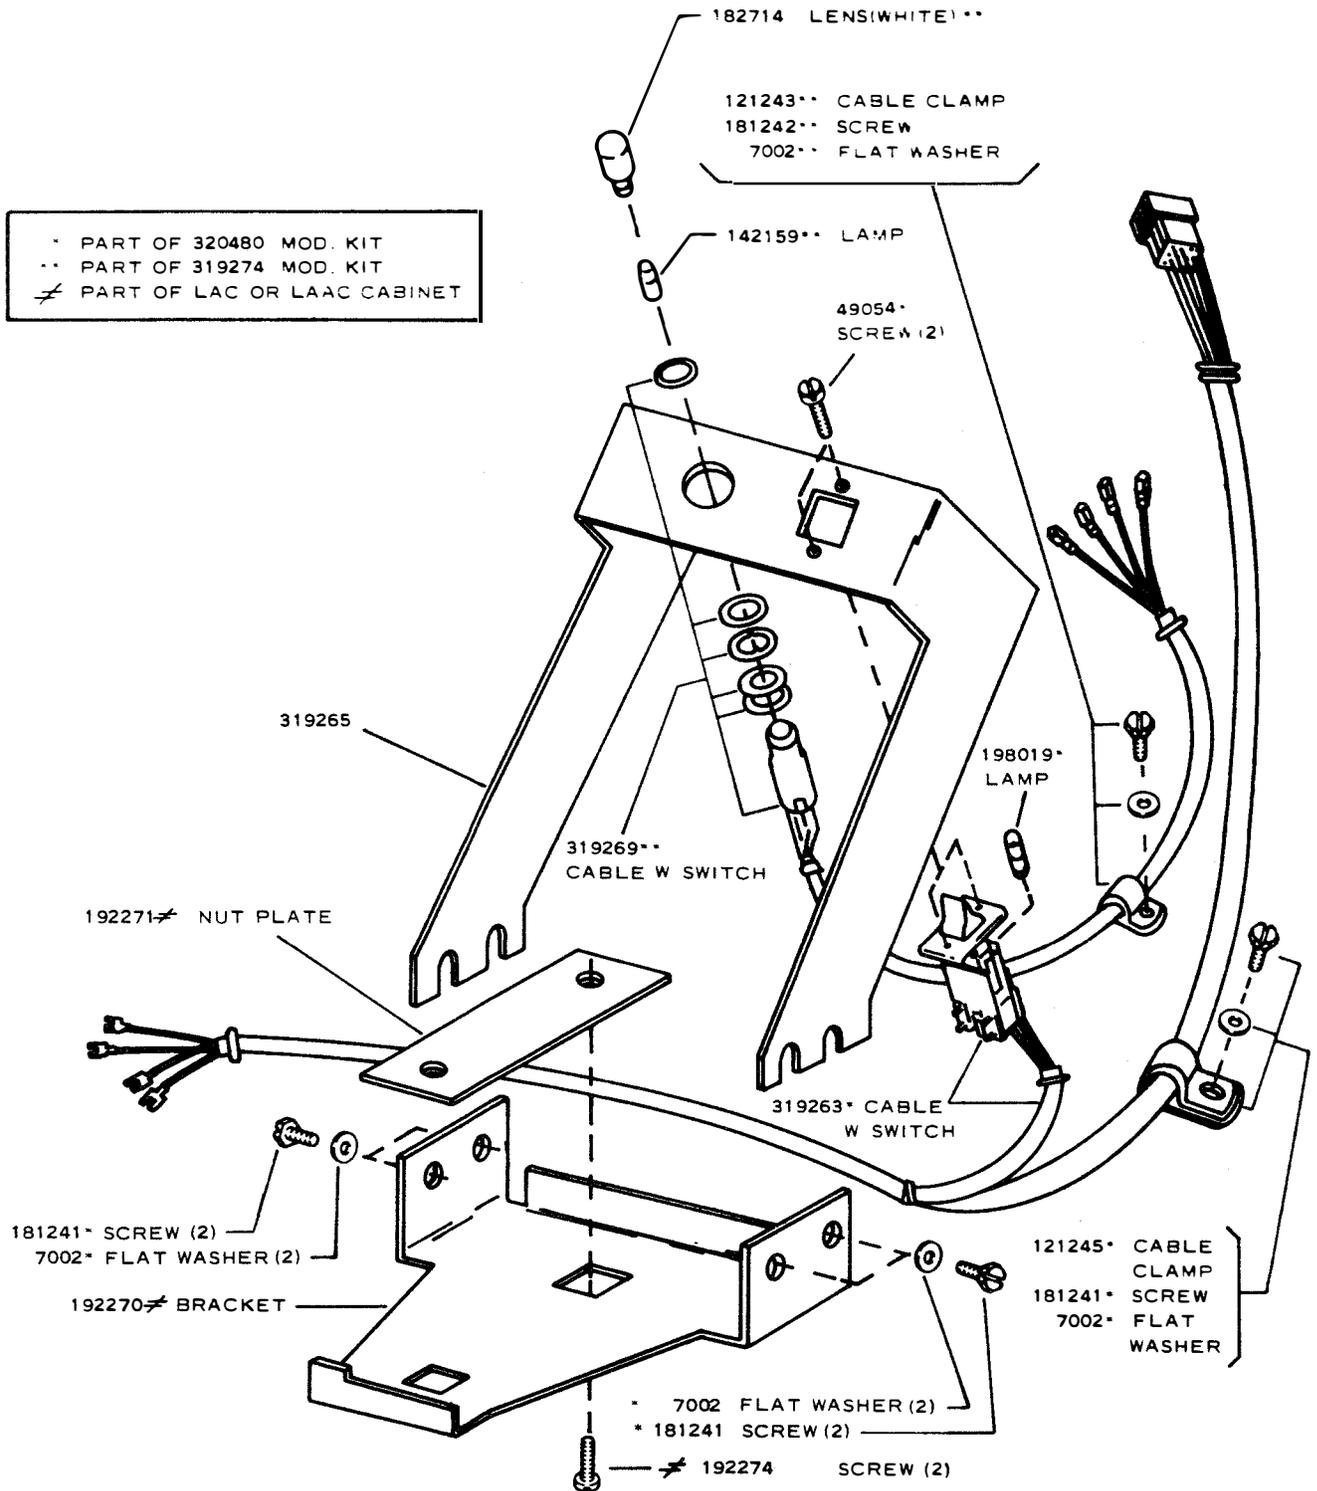

FIGURE 1
1.02 The kit mounts to the left of the BREAK-BRK RLS switch on the right side of the cabinet (Figure 1).
2. INSTALLATION (Figures 1, 2, and 3)
2.03 Mount the 319269 cable with switch to the 319265 bracket as shown in Figure 1.
2.04 Secure the 319269 cable with switch to the LAC or LAAC pan using the 121243 cable clamp, 181242 screw, and 7002 flat washer as shown in Figures 1 and 3.
2.05 Insert the 142159 lamp into its socket in the 182714 lens (Figure 1).
2.06 Install the 182714 lens into the 319263 cable with switch socket (Figure 1).